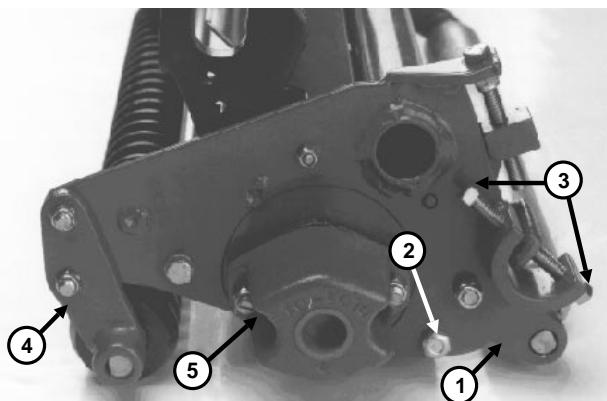

Figure 27
A. Remove locknuts securing front roller brackets to side plates at both ends of cutting unit (Fig. 27).